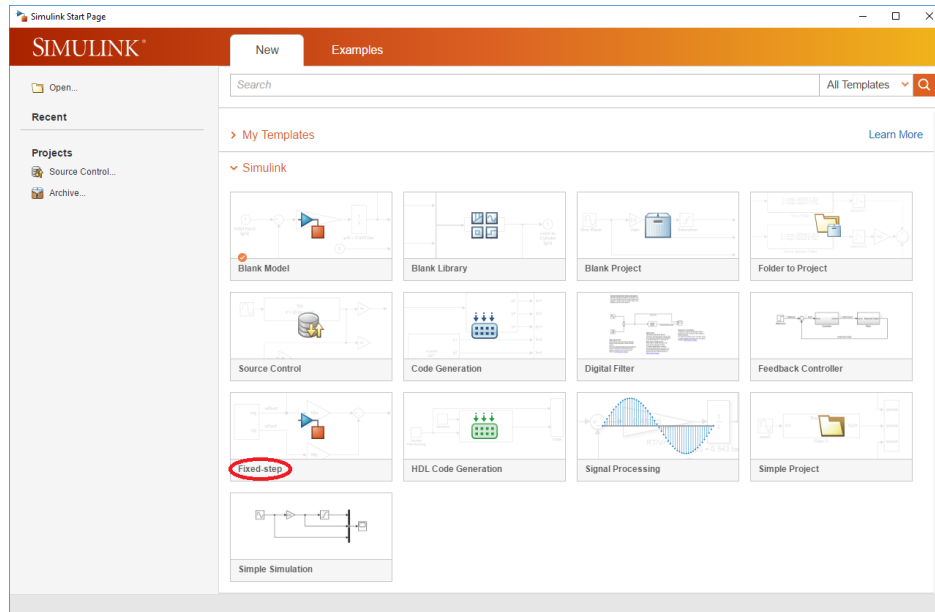

Figure 4: *Simulink Start Page.*
- Start DSP Builder using **DSP Builder - Start in MATLAB 2017b** under **Intel FPGA 18.0.0.614 Standard Edition** in the Windows start menu. Navigate to a folder where you would like your lab files to be placed, preferably on the Z: drive (if you are using the computers in the lab), so that you can access your files later. Create a folder entitled **lab1** and make sure it is the current folder. Start Simulink by executing the **simulink** command in the MATLAB **Command Window** or by clicking the Simulink button in the **Home** tab. Create a new model by selecting the **Fixed-step** template (you might have to press **Show more** under **Simulink**), as shown in Fig. 4.